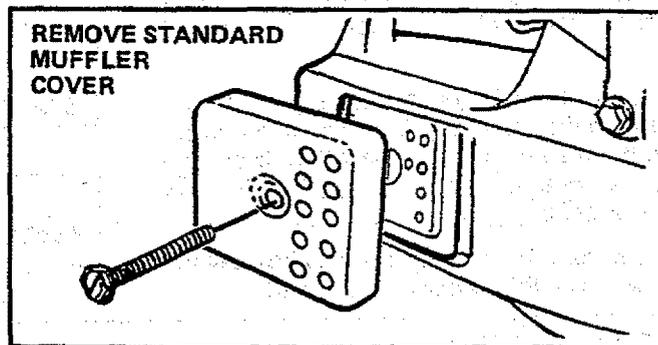

Figure 10
1. Remove the screw located in the center of the muffler body. Figure 10.